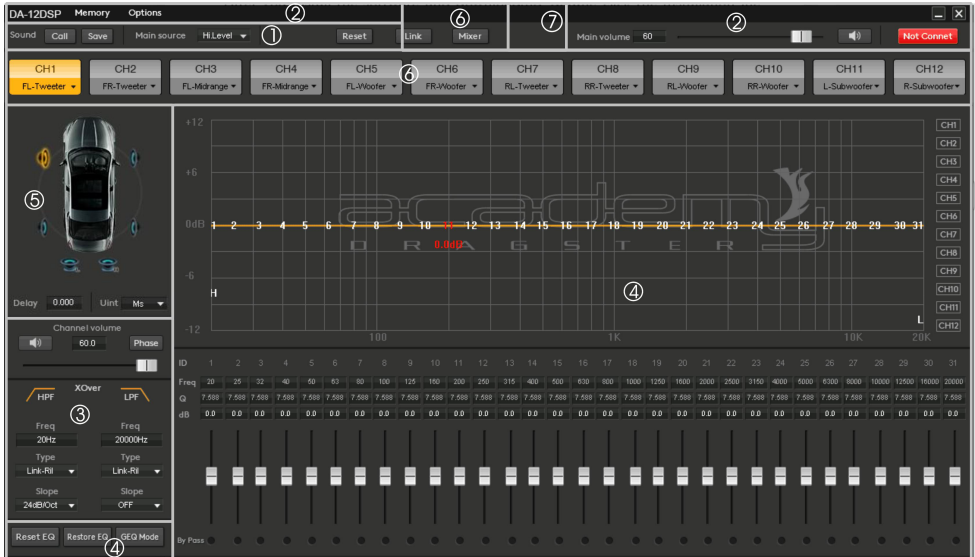
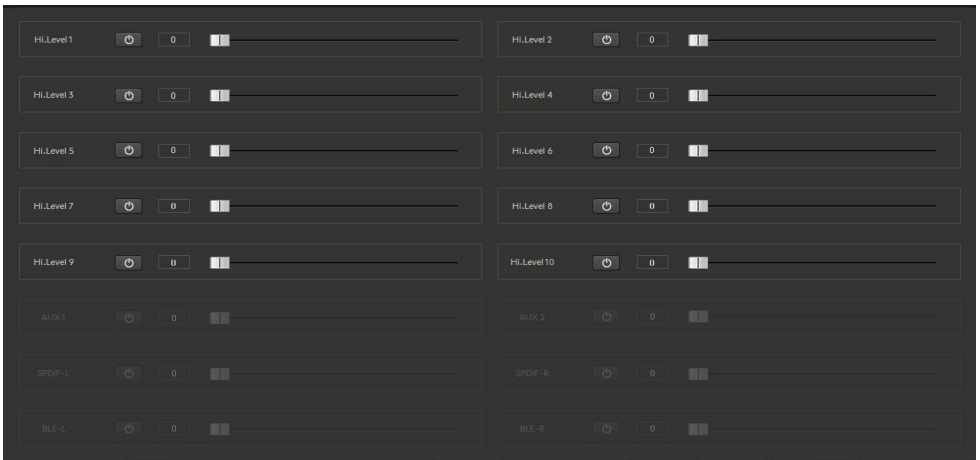

Figure 3.2.2
figure 3.3.14
- 1 . as shown in figure 3.2.2, "1", input signal selection: high level, Bluetooth, S/PDIF, AUX and Player.
- 2 . as shown in figure 3.2.2 "2", shows the main menu and connection status.
- 3 . as shown in figure 3.2.2 "3", the high-pass and low-pass Settings of the divider.
- 4 . as shown in figure 3.2.2, "4", area is output channel EQ setting.
- 5 . as shown in figure 3.2.2, "5", shows the setting of delay space.
- 6 . as shown in figure 3.2.2,"6", output channel configuration and common parameter adjustment area.
- 7 . as shown in figure 3.2.2, "7", shows the setting of Mixer space.
In the online mode, in Figure 3.2.2 "1", click the appropriate input source, you can switch the audio input signal.
"6" area, click on the corresponding channel number in Figure 3.2.2 (CH1, CH2 CH12), you can switch to the corresponding channel to adjust relevant parameters when changing the channel editing, where there are only 3.2. 2 "4" zone (crossover and equalization parameters) will vary depending on the channel and change the parameter values.
Mixer settings: click "mixer" in the "7" area in Figure 3.2.2, then you can switch to (Figure 3.3.14) the relevant parameter settings for the corresponding adjustment